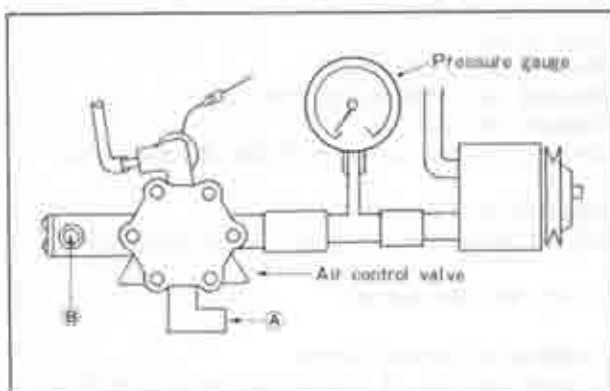

Fig. 1A-42 Checking of air control valve
2. Attach the pressure gauge as in Fig. 1A-42.